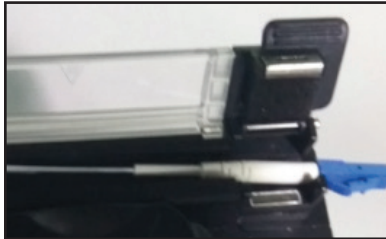

Figure 8
9. Transfer the splice to the splice sleeve heat oven on the right-hand side (Figure 8). Verify the position of the splice sleeve is butted up against the metal portion of the splice-on connector. Use the 60 mm heater mode #1 with center and edges activated. Press the HEAT button to run the shrink cycle.